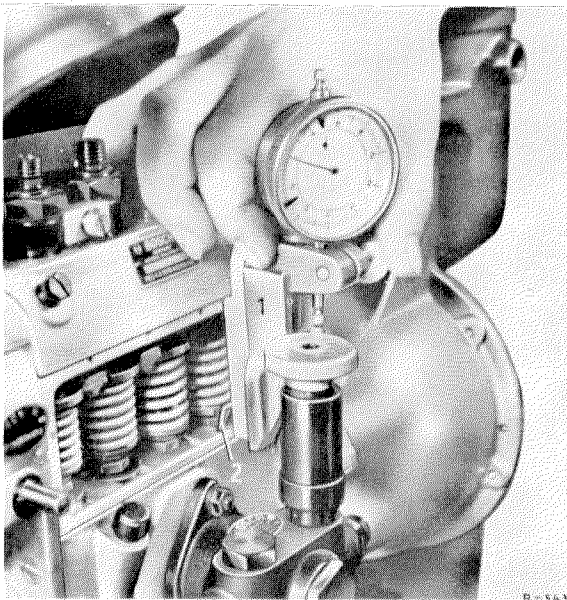

Figure 00-6/16
3. Put stroke advance tester (1) to the pump in such a way that the measuring pin (2) comes to rest on the push rod of the first pump cylinder (see Figure 00-6/16). The dial gauge must be pre-loaded approx. 0.5 mm at the same time. Then turn the scale of the dial gauge so that the needle points to zero.
5. In this position of the injection pump the feed begin marking and/or the corresponding degree on the pulley (see Figure 00-6/1) or on the flywheel must coincide with the timing needle (see Figure 00-6/6) or the hexagon screw must be situated between the two lines marked with "FB" on the flywheel (see 00-6/7).